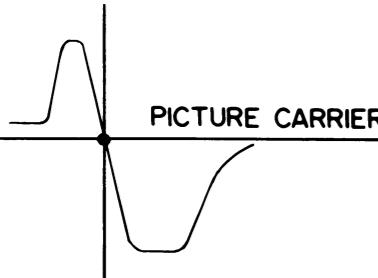

Figure 3 (AFT Alignment Waveform)
3) Adjust L102 so that it may be the same as shown in figure 3.